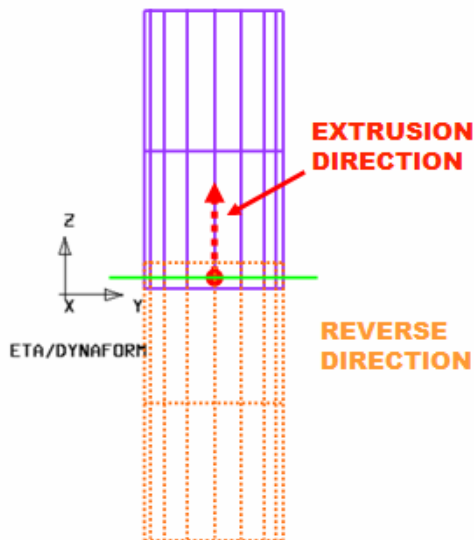

Figure 9.6.4 Reverse Locator Pin
**REVERSE** – This function enables the user to reverse the locator pin. An example is illustrated in Figure 9.6.4.